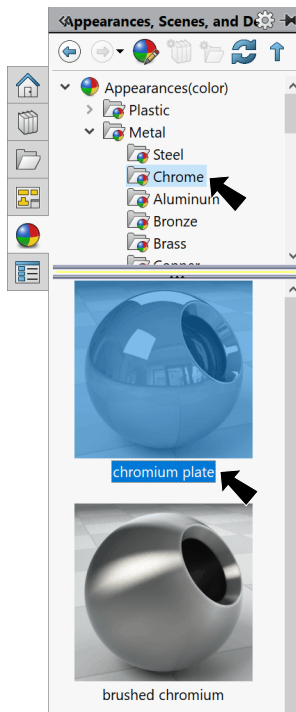

Fig. 36
Step 2. In the Appearances Task pane, expand **Metal** and click **Chrome** and in the lower pane select **chromium plate**, Fig. 36.